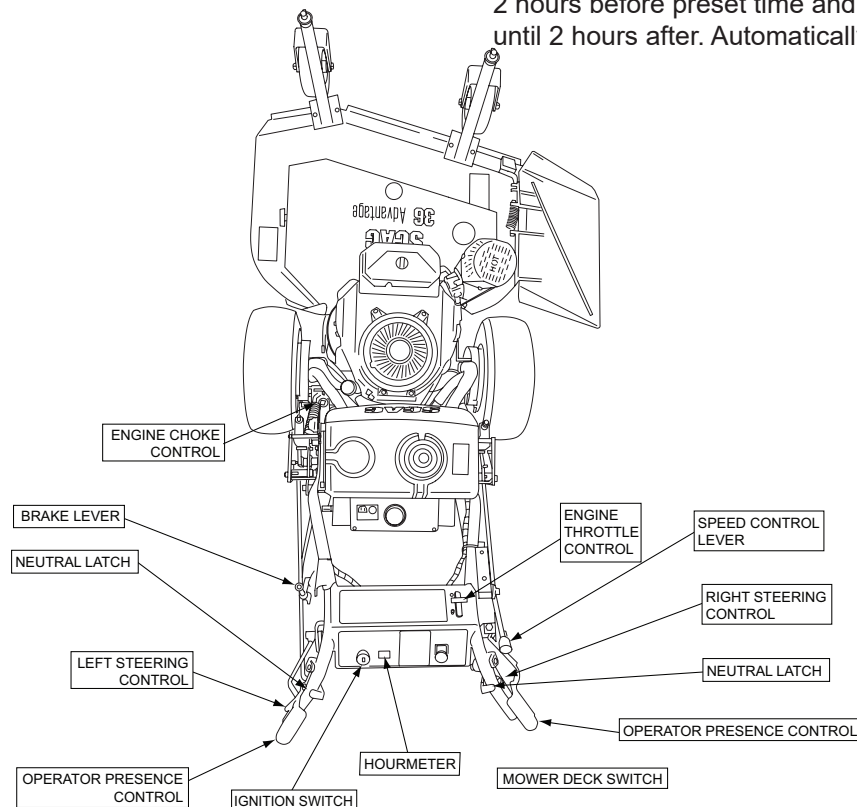

Figure 4-1. Controls and Instruments
1. **Ignition Switch (Figure 4-1).** The ignition switch is used to start the engine. Turn the key to the on position before pulling the recoil starter.
2. **Mower Deck Switch (Figure 4-1).** Use to engage and disengage the mower drive system. Pulling up on the switch will engage the deck drive. Pushing down on the switch will disengage the deck drive.
3. **Engine Choke Control (Figure 4-1).** Use to start a cold engine.
4. **Engine Throttle Control (Figure 4-1).** Use to control the engine speed. Pushing the lever forward increases engine speed. Pulling the lever back decreases engine speed. Full back position is the IDLE position. Full forward is the cutting position.
5. **Left Steering Control (Figure 4-1).** Use to control the mower's left wheel when traveling forward or reverse. Pull upward for neutral and reverse.
6. **Right Steering Control (Figure 4-1).** Use to control the mower's right wheel when traveling forward or reverse. Pull upward for neutral and reverse.
7. **Hour Meter (Figure 4-1).** Indicates the number of hours the engine has operated. It operates whenever the engine is running. Has preset maintenance reminders for engines and hydraulic system oil changes. Will start flashing scheduled maintenance 2 hours before preset time and continue flashing until 2 hours after. Automatically resets.
8. **Speed Control Lever (Figure 4-1).** Use to select the forward speed.
9. **Neutral Latch (Figure 4-1).** Use to secure the hydraulic drive system in neutral. Apply neutral latches when parking the machine.
10. **Operator Presence Control (Figure 4-1).** The operator presence control levers must be depressed before the speed control lever is shifted out of neutral or engaging the mower deck.
11. **Parking Brake Lever (Figure 4-1).** Use to engage and disengage the parking brake. Pull the lever back to engage the parking brake. Push the lever forward to disengage the parking brake.